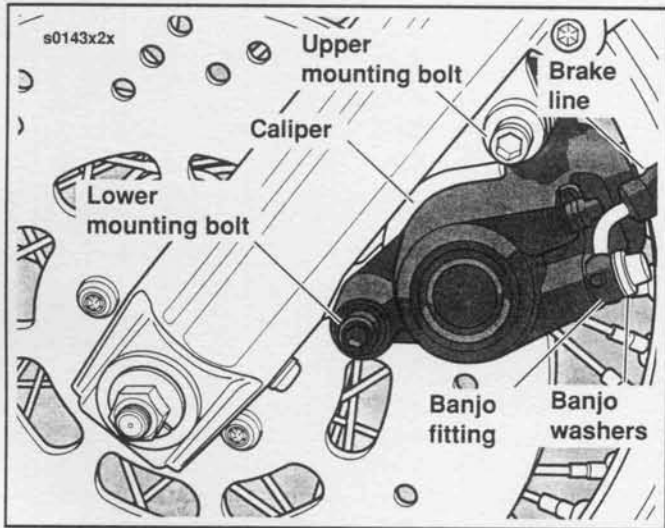

Figure 2-48. Front Brake Caliper Mounting
1. See Figure 2-48. Disconnect the brakeline at the caliper fitting.